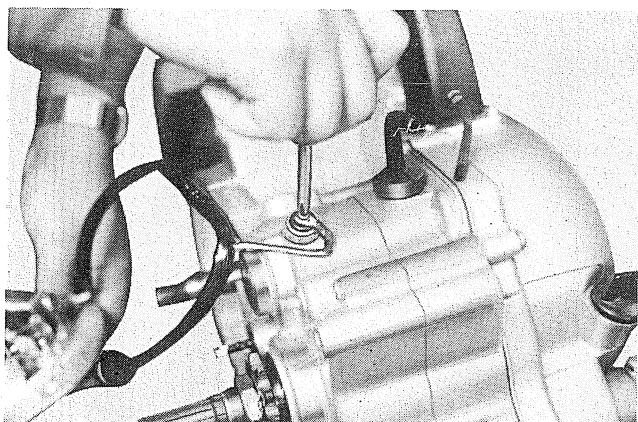

Fig. 3-1-20
16. Disconnect the cable from the neutral light switch. (Fig. 3-1-20)